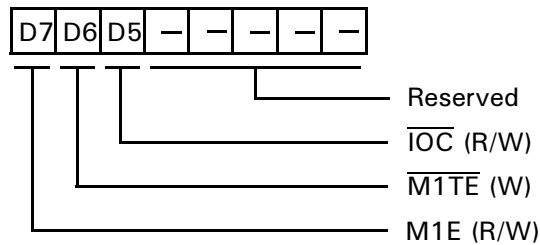

Figure 8. Operating Control Register
**Z80 versus 64180 Compatibility.** The Z8S180/Z8L180 is descended from two different “ancestor” processors, ZiLOG’s original Z80 and the Hitachi 64180. The Operating Mode Control Register (OMCR), illustrated in Figure 8, can be programmed to select between certain Z80 and 64180 differences.